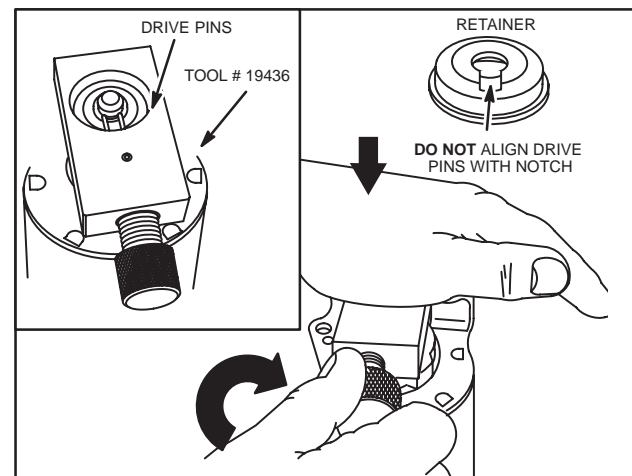

Fig. 15 – Removing C-ring
1. Place counterbore side of Tool #19436 over retainer and align drive pins with open end of C-ring, Fig. 15.